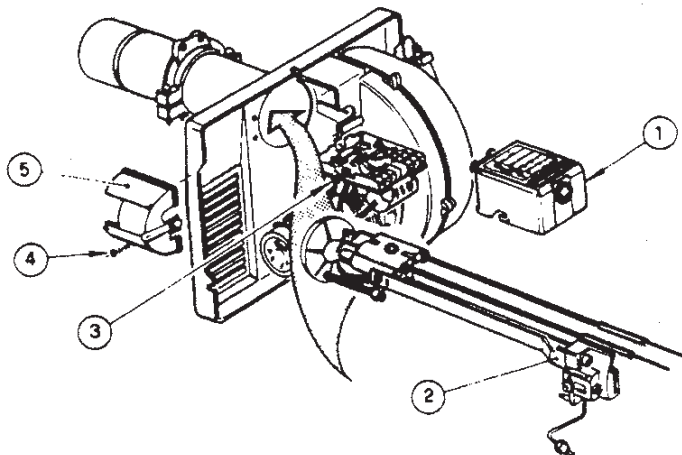

Figure 5: Installation/Removal of Drawer Assembly
- n. Swing igniter closed, rotate tabs and tighten two (2) igniter screws.
a. **Installation/Removal of Drawer Assembly**, refer to Figure 5.
- Loosen SCREW (3), and then unplug PRIMARY CONTROL (1) by carefully pulling it back and then up.
- Remove the AIR TUBE COVER PLATE (5) by loosening the retaining SCREW (4) (Two SCREWS-Model F5).
- Loosen SCREW (2), and then slide the complete drawer assembly out of the combustion head as shown.